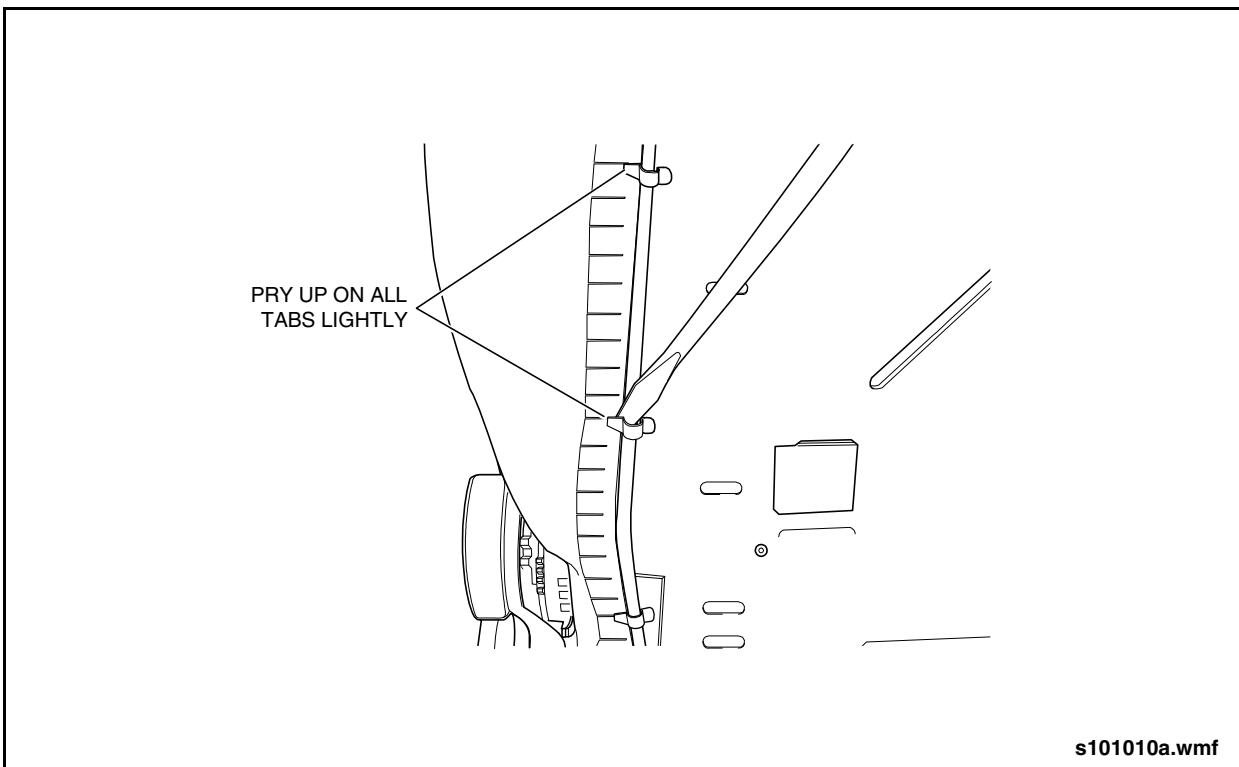
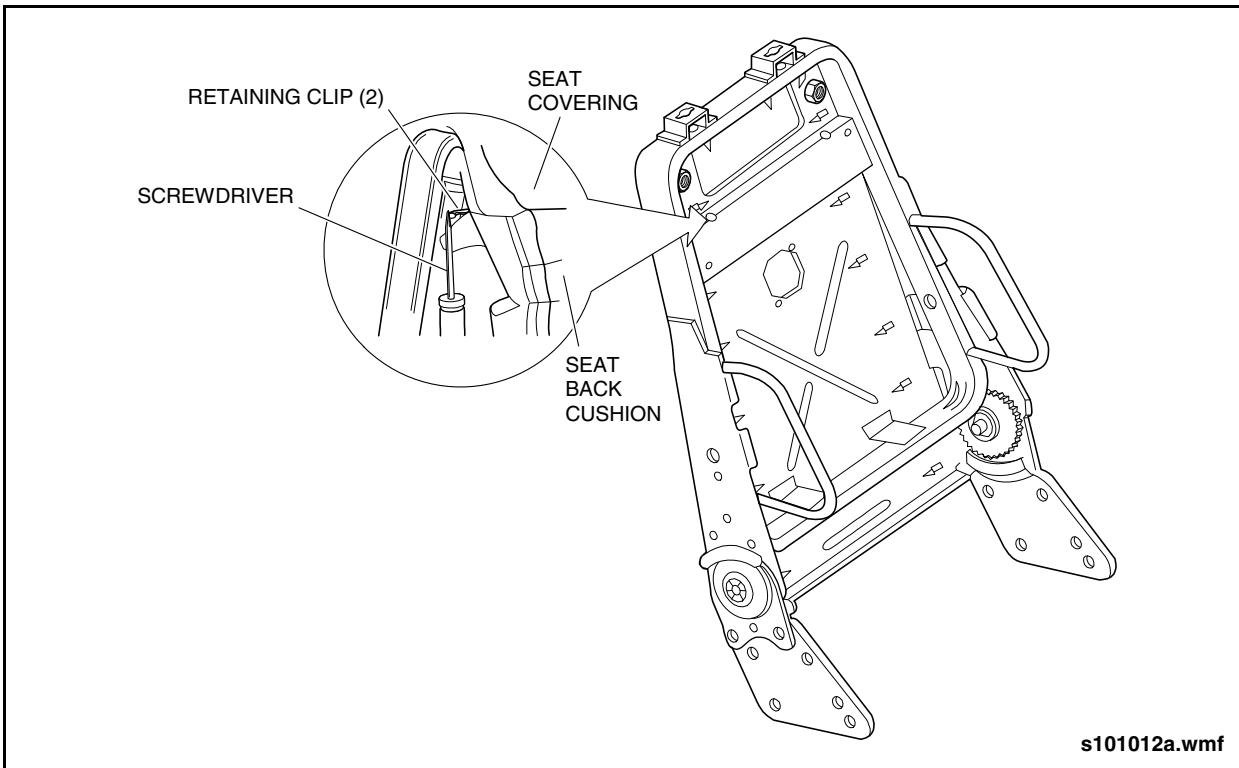

Fig. 17-5: Seat Back Cover Retaining Tabs
Fig. 17-6: Headrest Retaining Clips
2. Pry the seat cover retaining tabs on the backside of the frame up slightly to allow removal of the seat back cover. See "Fig. 17-5: Seat Back Cover Retaining Tabs" on page 7. Lift tabs only enough to allow cover retaining strips to pass. Be careful not to break or damage the metal tabs on the back frame. Undo both sides and then the top hold down strip. Unhook the right and left side seat back cover lower corner tabs. Reach up under the backrest foam and press on the two retaining clips to release the headrest. Lift headrest out of seat back. See "Fig. 17-6: Headrest Retaining Clips" on page 7.